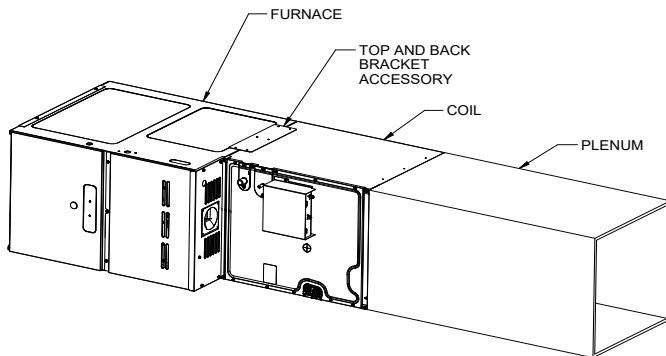

Figure 5A
1. Using the hardware and brackets provided, attach the coil to the furnace then attach the plenum to the coil (Figure 5A). Using insulated tape or mastic seal the joints between the coil and furnace and between the coil and plenum.